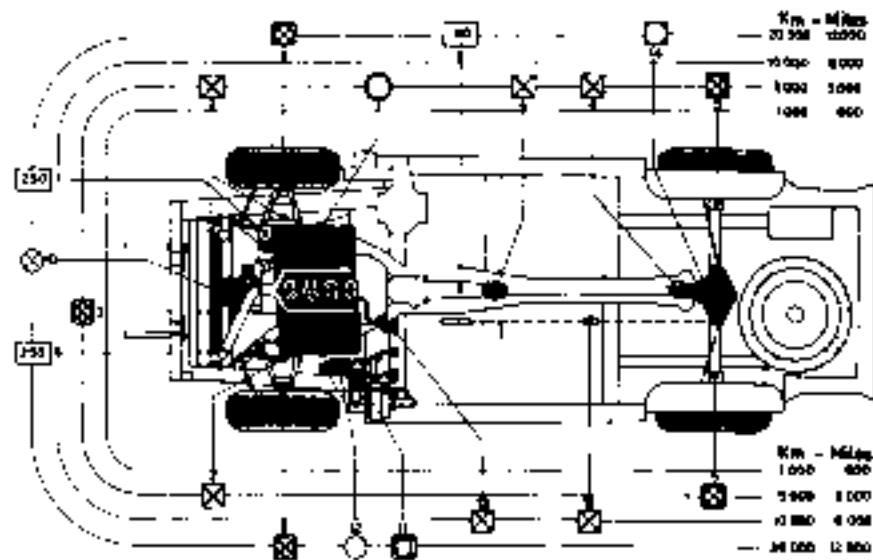

Fig. 45
**CORRISPONDENZA SCHEMA DI LUBRIFICAZIONE (Fig. 45)**
**CORRESPONDANCE SCHEMA DE LUBRIFICATION (Fig. 45)**
**LUBRICATION POINTS (Fig. 45)**
SCHMIERPLAN (Abb. 45)**